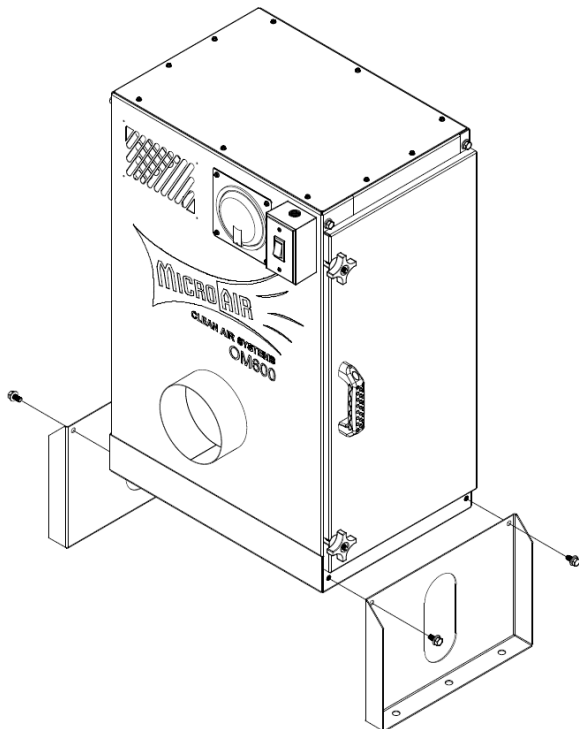

FIG. 1
2. Remove the two 5/16-18 bolts from each side of the cabinet on the bottom side of the unit to secure legs in place. Mount legs to cabinet using removed bolts (**FIG. 1**).